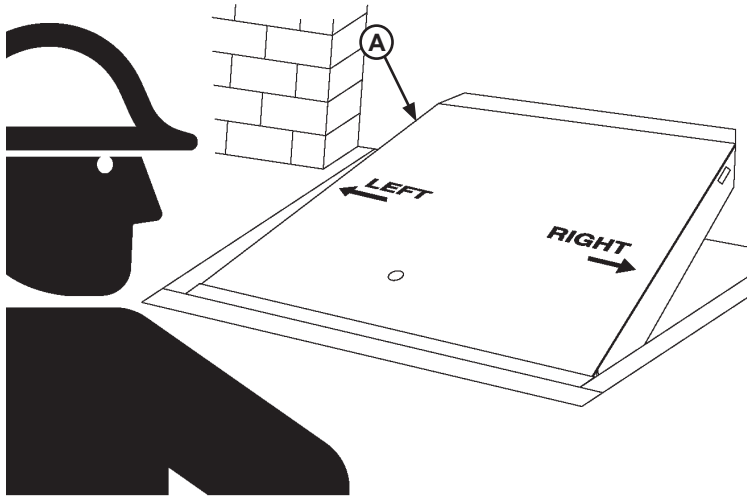
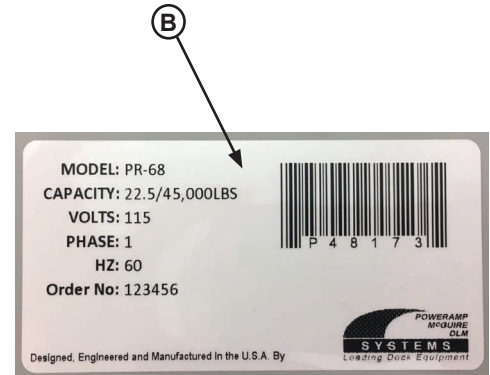

Figure 31
Figure 32
**NOTE:** Refer to Figure 31 for left/right orientation of dock leveler and Figure 32 for example of decal.